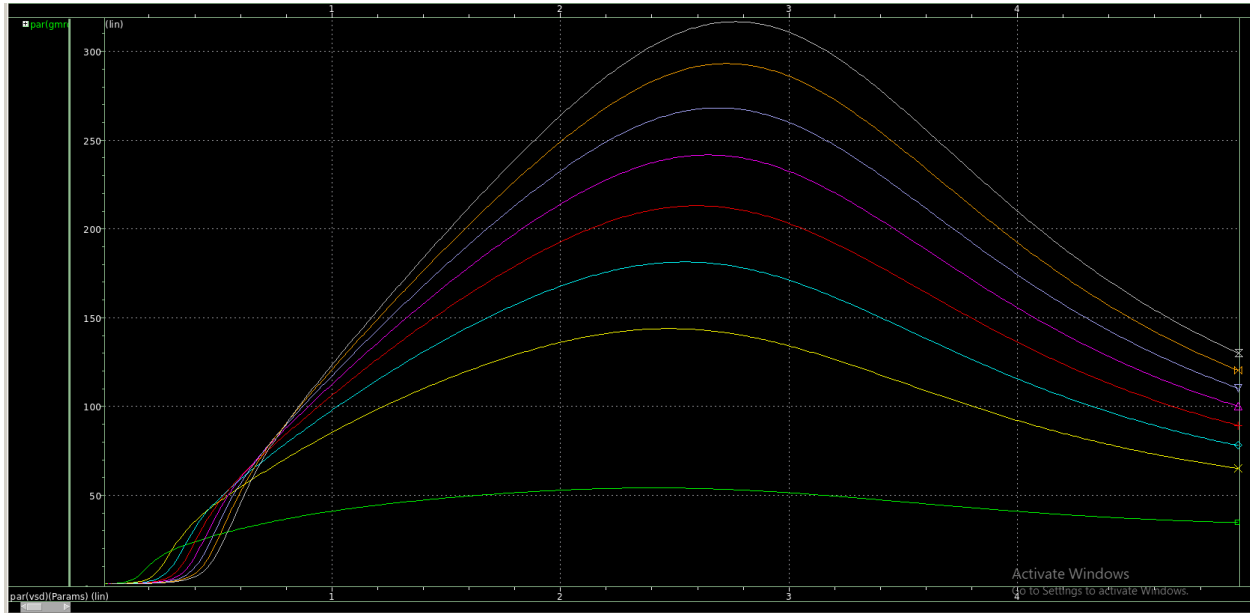

Figure 2. PMOS  $g_m r_o$  vs  $V_{in}$  characteristic curve
- From Figure 2,  $V_{in}$  increases,  $V_{SD}$  increases, PMOS operates from Triode to Saturation region,  $g_m$  increases. In saturation region,  $I_D$  is almost constant so  $g_m$  is also constant.